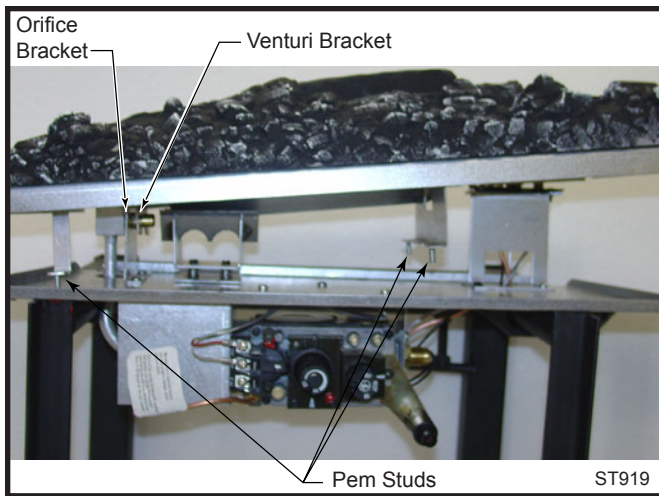

Fig. 81 Tilt ember bed slightly to correctly place on venturi and air shutter.
2. Carefully remove ember bed by tilting the right side up and lifting out toward the right side of the unit. (Fig. 81)
1. Replace burner making sure venturi on bottom of ember bed aligns with orifice and is seated properly on air shutter assembly. (Fig. 81) Make sure burner is slid into place at a slight angle and opposite to how it was removed. When burner is slid into place, the three (3) pem studs should slide down through clearance holes into the bottom of the control panel.